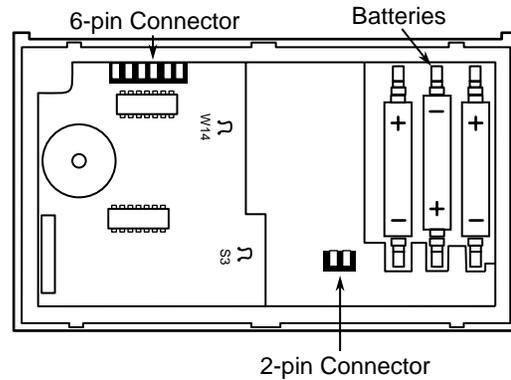

Figure 10. Back of thermostat
For central electric heat systems where the blower is energized by a **separate circuit** through the fan relay (meaning that the fan turns on immediately on call for heat), clip wire **W14** on the back of the thermostat (see fig. 10). If the thermostat is energizing electric heat sequencers, **DO NOT** clip wire **W14**.
**To activate the EMR function**, clip wire **S3** on the back of the thermostat (see fig. 10).